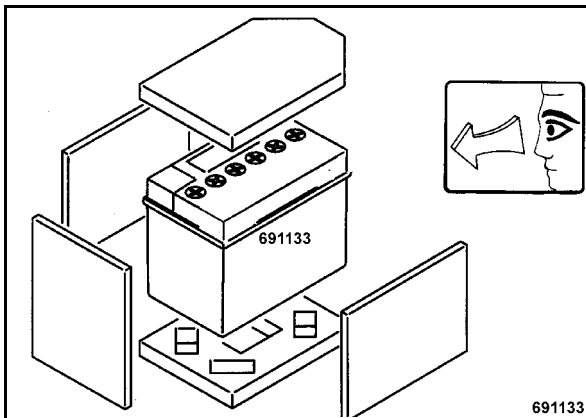

Fig. 56
- Clean the condition of the vibration insulation mats, replace if necessary (Fig. 56).